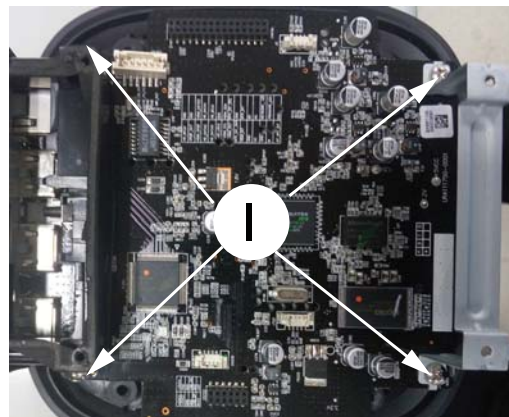

Figure 11
- 1) Loosen 4 screws "I" on the top of MTK8507&HDMI REPEATER Boards as shown figure 11.